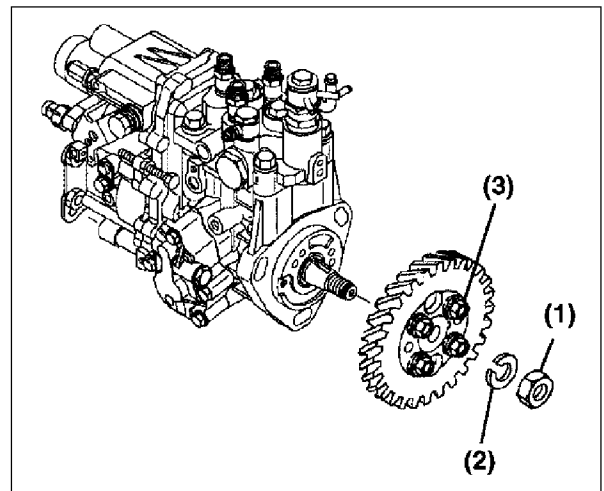

Figure 7
- (18) Do not loosen or remove the four bolts (Figure 7, (3)) retaining the pump drive gear nut (Figure 7, (1)) and washer to the hub. Only remove the single drive gear (Figure 7, (2)), leaving the hub attached to the gear.
- (19) Hold the gear train using a large socket wrench on the crankshaft pulley nut. Loosen the fuel injection pump drive gear retaining nut (Figure 7 (1)) and turn it out to the end of the fuel injection pump shaft.